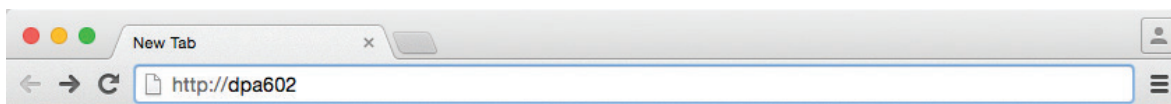

Figure 1
4. In the Web Browser address bar, type in the following: `http://DPA602` and hit enter. For this example we are connecting to the DPA model DPA602. An example is shown in Figure 1.